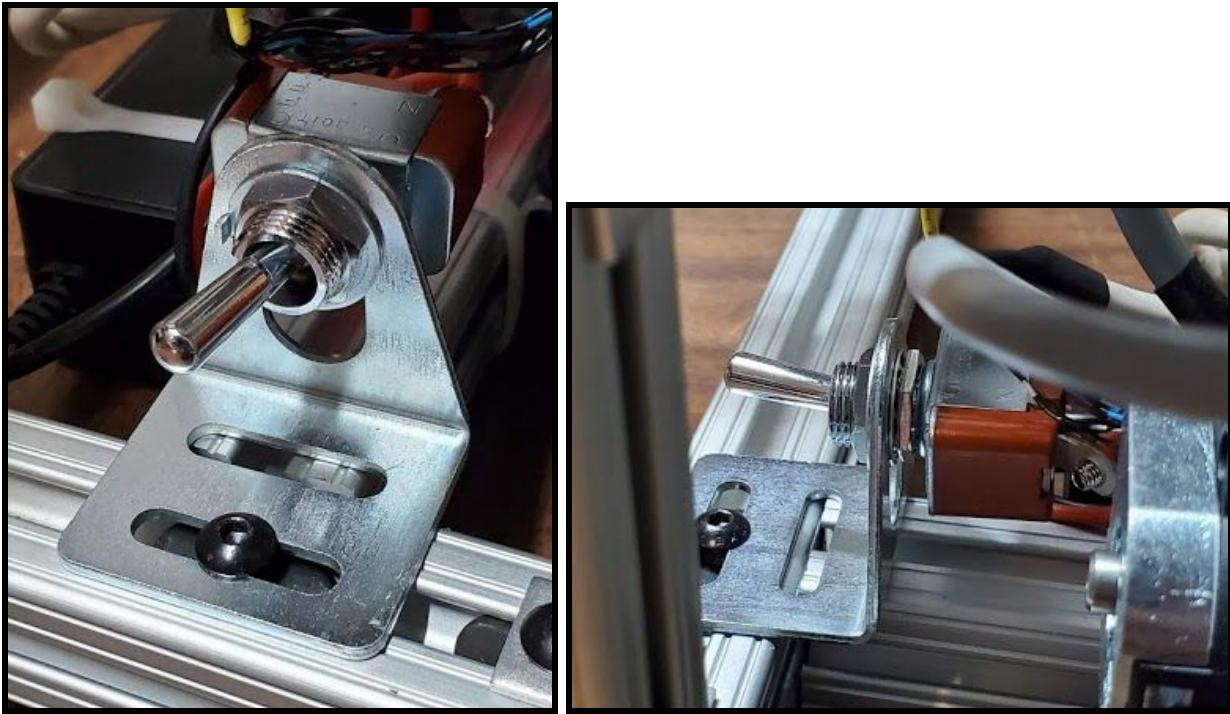

Figure 10.3 The power switch mounting from the front and side.
10.7) Slide a **T-slot nut** into the top side of the front bottom piece of extrusion. Secure the bottom of the **power switch mounting bracket** (with two long holes) with the **button-head screw**. Secure the power switch to the other side of the mounting bracket, with its lever pointing outwards. See Figure 10.3 for how the power switch should be mounted.